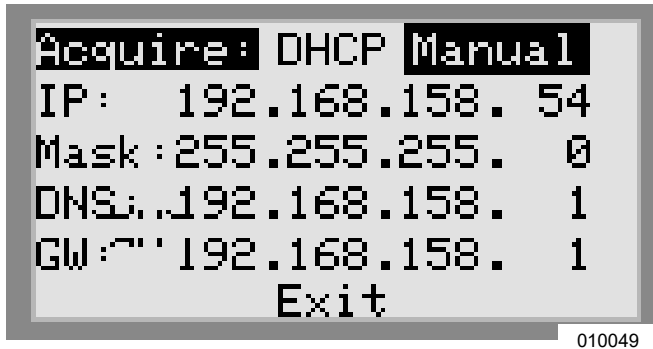

Figure 6-27. Ethernet Configuration (2 of 2)
- See Figure 6-27. From the IP Settings menu select Manual.